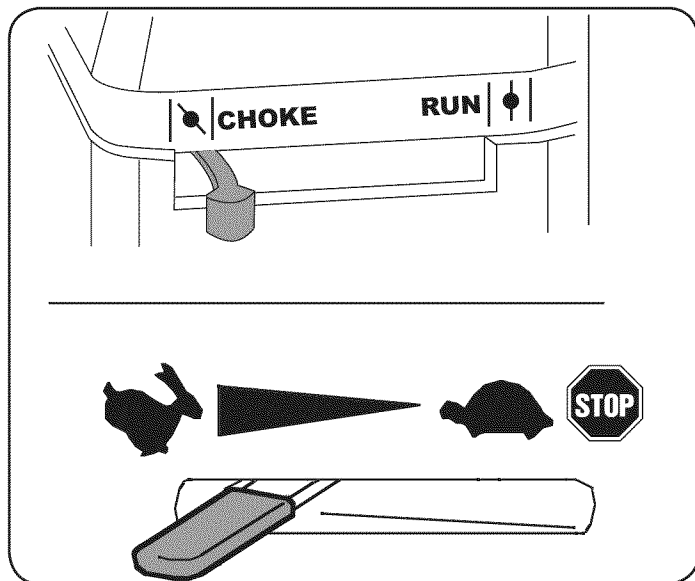

Figure 11
4. Move the choke lever on the engine to CHOKE  position. (A warm engine may not require choking.) See Figure 11.
5. Move throttle control to START/RUN (Rabbit)  position. See Figure 11.